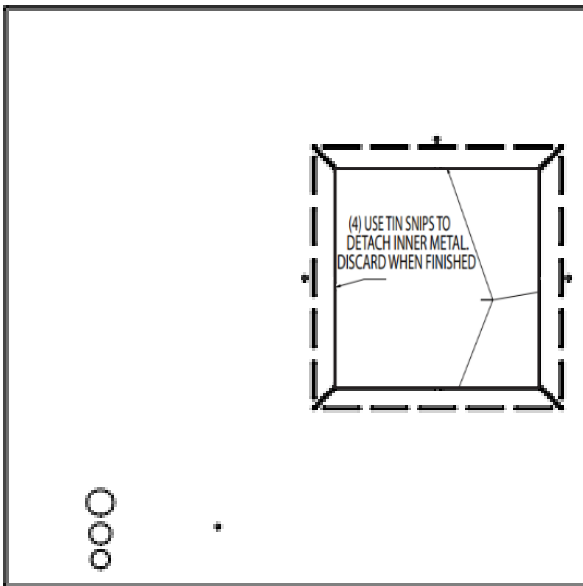

Figure 1
1. Use metal snipping tool to cut out the square piece from return and supply air side as shown in figures 1 & 2.